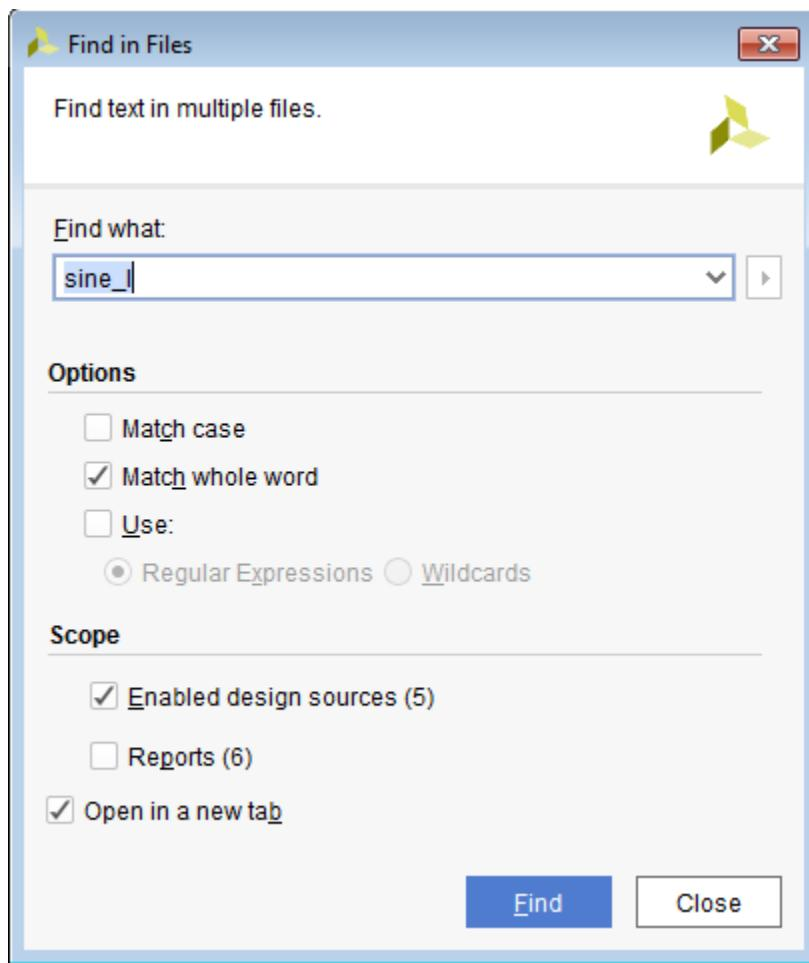

Figure 31: Find in Files
6. Select the **Match whole word** and **Enabled design sources** checkboxes, as shown in Figure 31, and click **Find**.